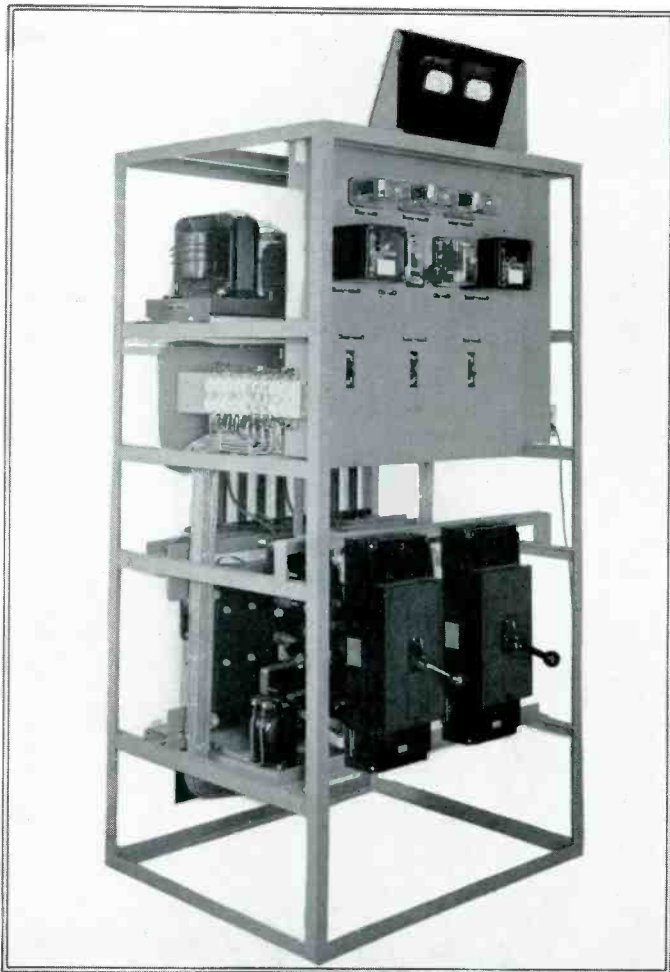

FIG. 11. POWER CONTROL AND RELAY RACK FOR THE 50-KW. FM TRANSMITTER. THIS UNIT IS MARKED D IN THE FLOOR PLAN, FIG. 8
- D—Power control rack, containing circuit-breakers, relays, and overload protective devices. Fig. 11.